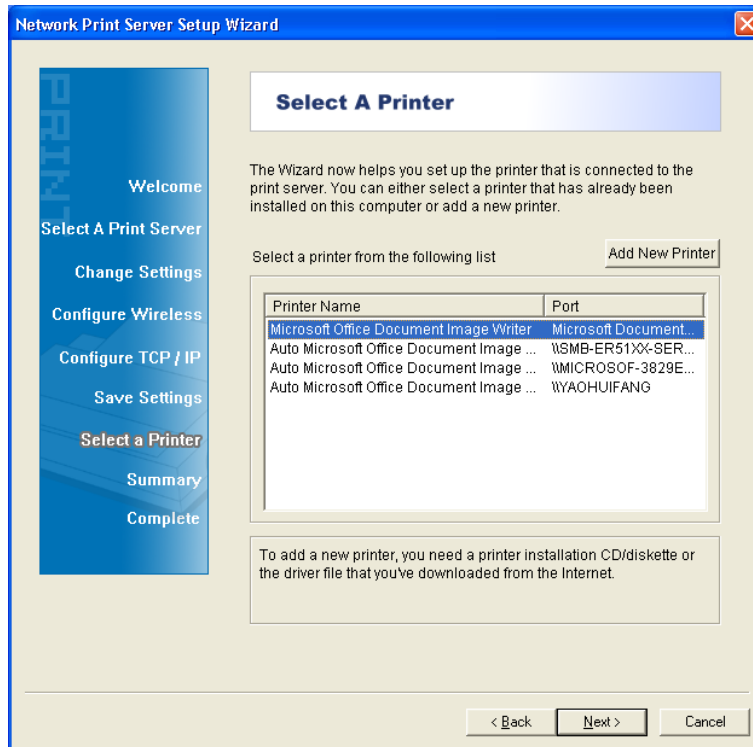

Figure 3-9
- Select **“No”** if you don’t need to change any settings. Click **Next** and then appears Figure 3-9. Skip to Step 23.
8. After that the “**Select a Printer**” page will appear, as shown in Figure 3-9.
- If you never use a printer on your computer before but also want to share printing, click **Add New Printer** button in Figure 3-9 and then Figure 3-11 appears. Follow the steps below to install the printer driver.